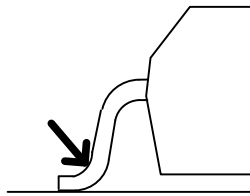

Figure 1: Total Resistance
- 10) The resistance is defined as the total resistance measured from a point of the lead next to the solder joint, assuming that the two I_{P+} pins (and I_{P-} pins) have the same potential (see Figure 1). This definition corresponds to the effective resistance used to estimate the Joule heating, calculated with $R \times I_P^2$.